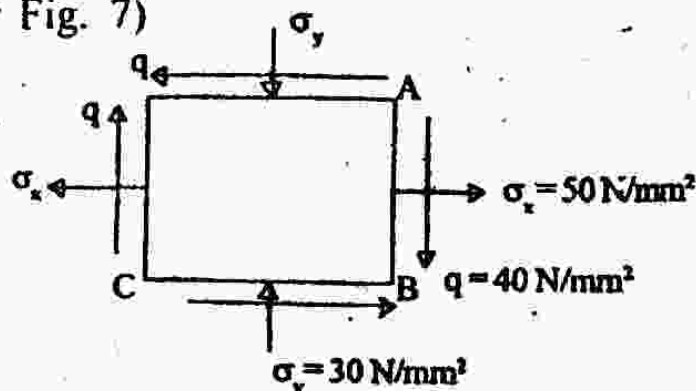

Fig. 7
11. Two planes AB and BC which are at right angles carry shear stresses of intensity 40 N/mm^2 , while these planes also carry a tensile stress of 50 N/mm^2 and a compressive stress of 30 N/mm^2 respectively. (14)
- Determine the principal planes and the principal stresses. Also determine the maximum shear stress and the planes of which it acts. (Refer Fig. 7)